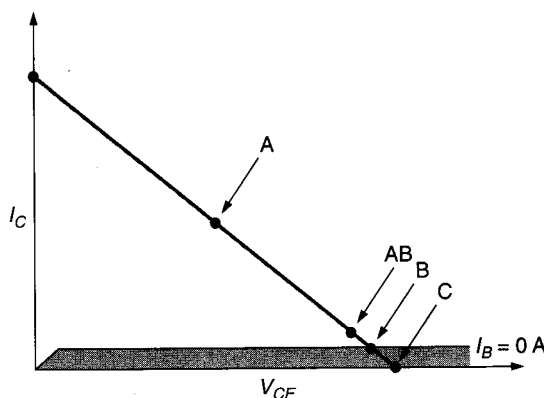

FIGURE 11.1 *Q*-point locations for each class of amplifier.
**OBJECTIVE 1** ▶ This equation indicates that lower dc input power results in higher amplifier efficiency. The dc input power to an amplifier varies according to the position of the *Q*-point on the load line. Typical *Q*-point locations for the four amplifier classes are shown in Figure 11.1.